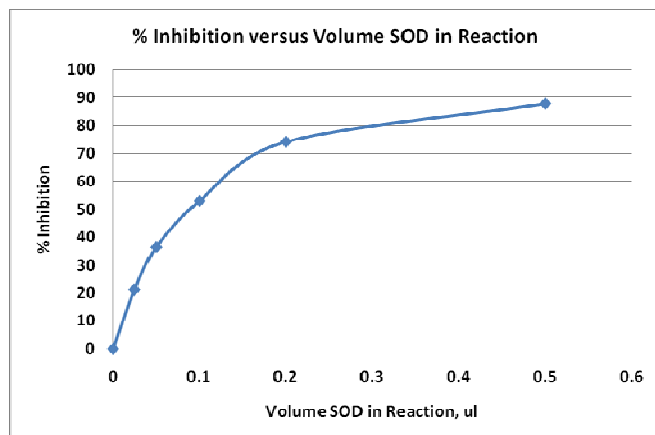

Figure 3. Inhibition curve for the SOD Standard.
1. The SOD standard is provided with an activity of approximately 10 units/ μ l. Plot the % Inhibition versus the volume of SOD standard used in the reaction. A typical inhibition curve for the SOD standard is shown in **Figure 3**: